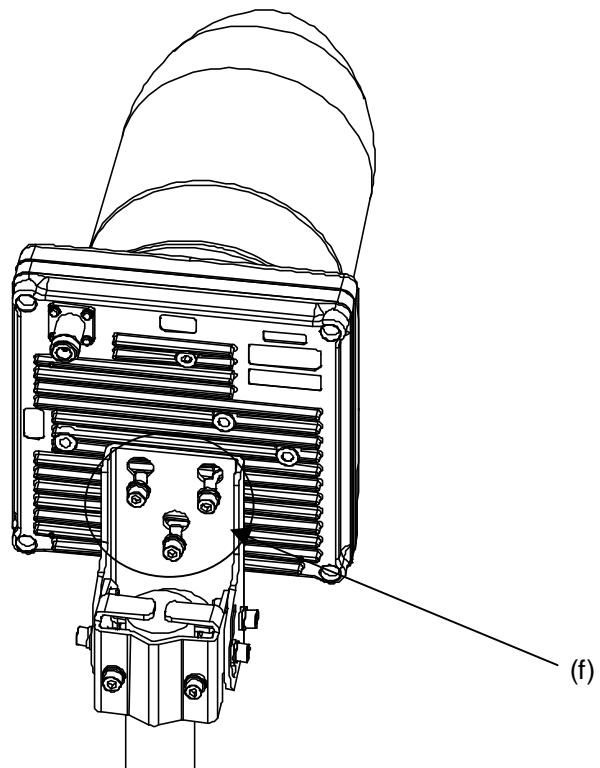

Figure 5-5 Installing the AP-RFU on the Mounting Bracket
- (3) As shown in Figure 5-5, align the AP-RFU with the openings in the AP-RFU mounting bracket and tighten the bolts (f). (Recommended tightening torque: 8.5N·m)